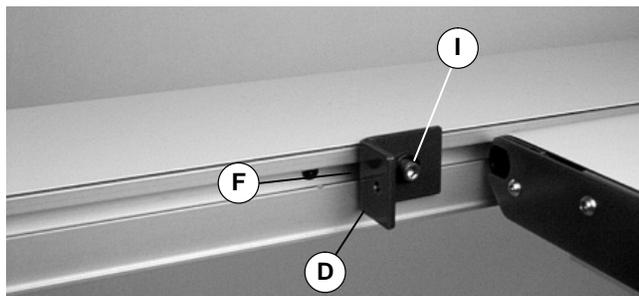

Figure 17
- Loosely attach 90° bracket (D of Figure 17) to T-bar (F) using screw and washer (I).